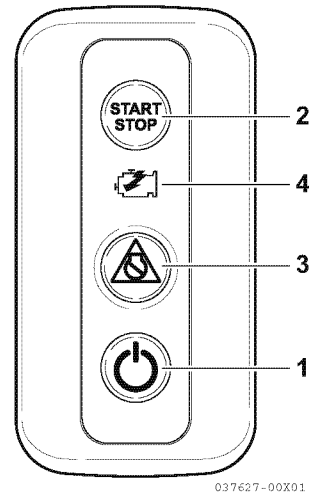

Figure 1
4. Press the Power switch on the switch panel of the selected station (1, **Figure 1**).
10. Press the Engine START/STOP switch (2, **Figure 1**) and power on the starter.